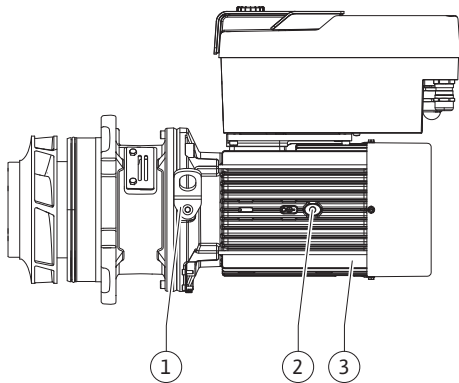

Fig. 107: Motor impeller unit
10. Insert the motor impeller unit (see Fig. 107) into the pump housing in the old or another desired angular position. Observe permitted installation positions of the components (see section "Permitted installation positions and change of the arrangement of components before installation" [► 21]).